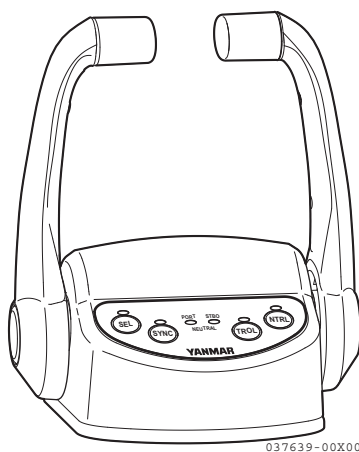
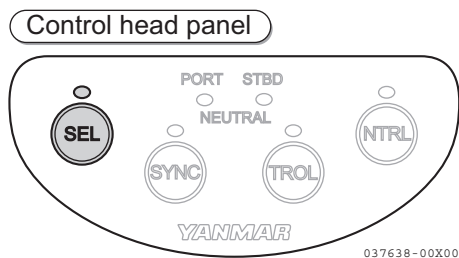

Figure 9
Figure 10
- The switch panel lamp will come on, and the control head (**Figure 9**) “SEL” lamp (**Figure 10**) will come on or flash.